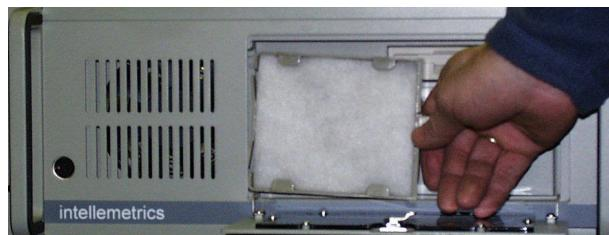

Figure 17. Removing/replacing the OMS Computer filter
- Remove the filter from inside the front panel see Figure 17 below.